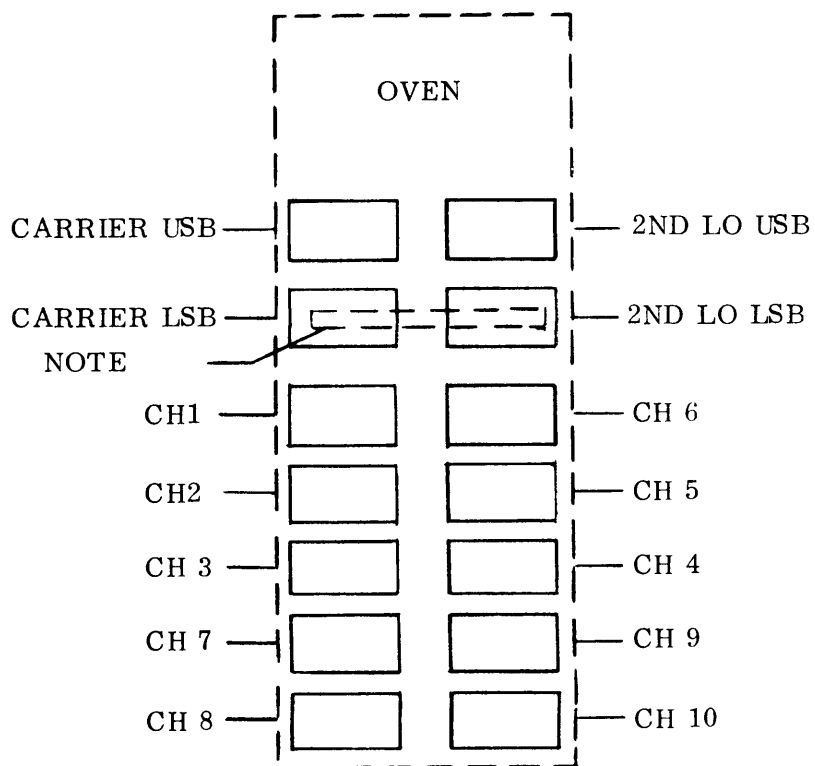
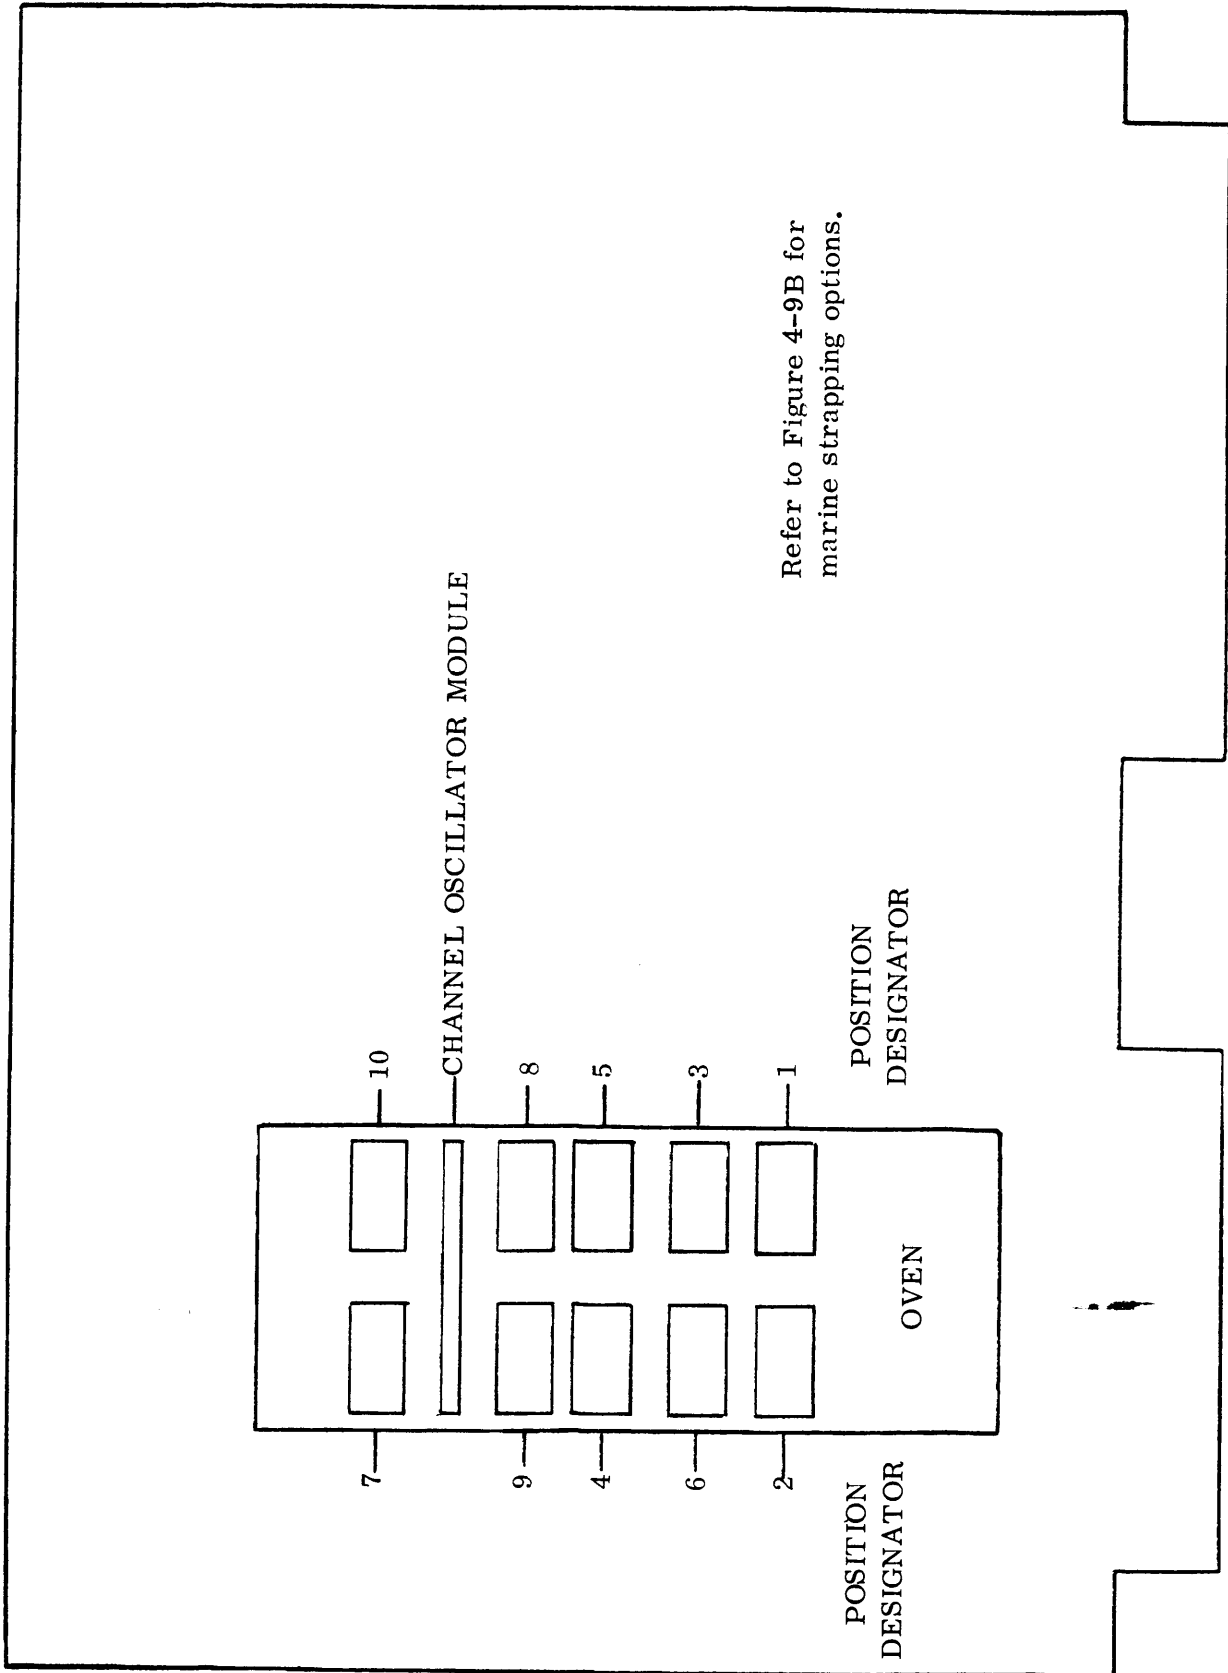

Figure 2-5A. Frequency Generator 1A6, Crystal Location Diagram
Figure 2-5B. Duplex Generator 1A8, Crystal Location Diagram (View from Component Side)
2.5.1 Channel Crystals. - The Transceiver uses a separate channel crystal for each transmit frequency. This normally functions as the receive crystal, however on transceivers with the half duplex option, a separate receive crystal is used for each receive frequency or channel. The location of the crystals on the frequency generator boards are shown in Figures 2-5A and 2-5B.
- a. Install the new crystal in the proper location on the frequency generator board, refer to figure 2-5A and the duplex frequency generator board (where used) refer to figure 2-5B. For duplex operation refer to figures 4-8B and 4-9B for jumper locations selecting duplex channels. Any channel may be made duplex by appropriate jumper selection.